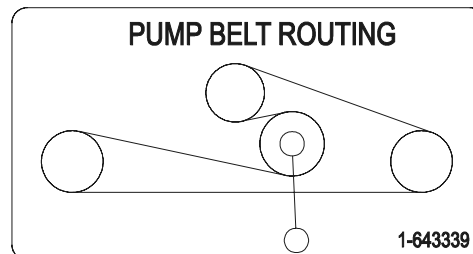

FIGURE 6
- c) Route new belt onto sheaves as shown in the decal located on the right hand side of the left hood support. See Figure 6.